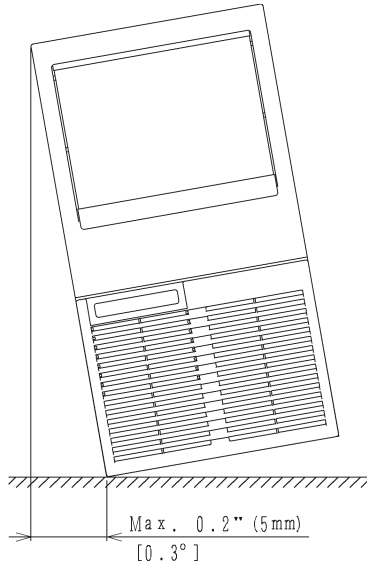

Fig. 2
- 3) Level the icemaker in both the left-to-right and the front-to-rear directions (when installed with or without legs). See Fig. 2.